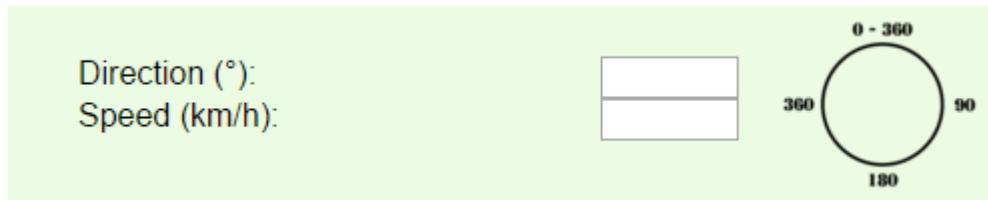

Figure 28 - Wind direction and speed as uniform values for the whole region
- **The fourth option** is to set uniform values for wind speed and wind direction for the whole region, as seen in Figure 28. Wind speed is expressed in km/h, while wind direction in degrees. Please note that the system will not allow values outside expected range.